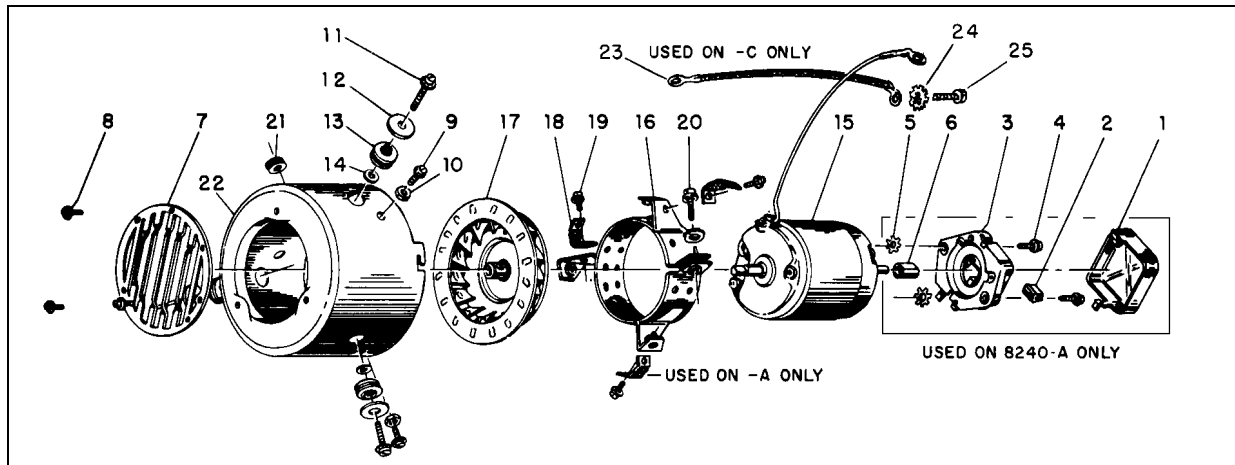

Figure 7 - Ventilating Air Blower, 8240-Series Heaters.
#### VENTILATING AIR BLOWER AND BREAKER POINTS DISASSEMBLY MODEL 8240-A (See Figure 7)
#### VENTILATING AIR BLOWER DISASSEMBLY MODEL 8240-C (See Figure 7)
11. Ventilating Air Blower (See Figure 7 or 8). Clean the housing, fan, bracket and outside of motor